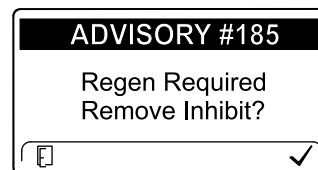

Figure 59
**Note:** If you set the InfoCenter to inhibit regeneration, the InfoCenter displays ADVISORY #185 (Figure 59) every 15 minutes while the engine requests a reset regeneration.